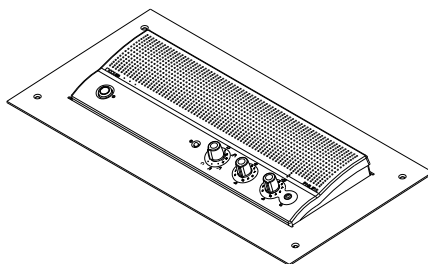

Fig. 4
- Mounted into a table (see Fig. 4) using the flush mount bracket illustrated on page 21.